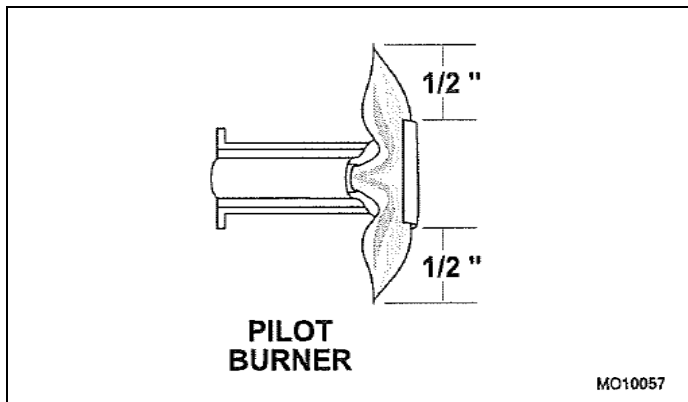

Figure 7. Pilot Burner
Each burner has a separate pilot burner. The pilot flame is adjusted through access holes in the valve control panel, Figure 7. Pilot access is through the broiler opening.
3. Ensure that each pilot burner has a steady blue flame, Figure 7, per Table C on PAGE 5. The pilot flame should envelop the tip of the thermocouple. The pilot flame can be viewed up through the opening of the broiler compartment.